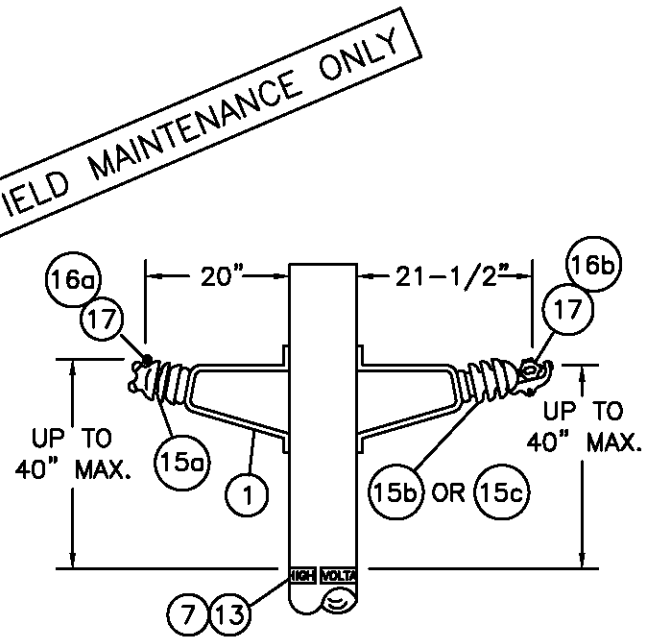

FIGURE 4
- (J) TO PREVENT RADIO INFLUENCE VOLTAGE (R.I.V.), DO NOT LOCATE BOND WIRE STAPLES WITHIN 1" OF BOLTS.
- (L) ORDER (ITEM 18) FOR HPI ONLY.
- (M) FOR SPAN LENGTHS GREATER THAN 250', THE CONDUCTOR SPACING IS DETERMINED BY THE FORMULA:
- N. AN INSULATOR MOUNTED DIRECTLY ON THE SIDE OF A POLE SHALL BE CONSIDERED AS IN A HORIZONTAL POSITION (SEE FIG. 4). AN INSULATOR MOUNTED DIRECTLY AT THE TOP OF THE POLE IN A VERTICAL POSITION SHALL BE CONSIDERED AS IN A VERTICAL POSITION (SEE G.O. 95 RULE 54.11 A).